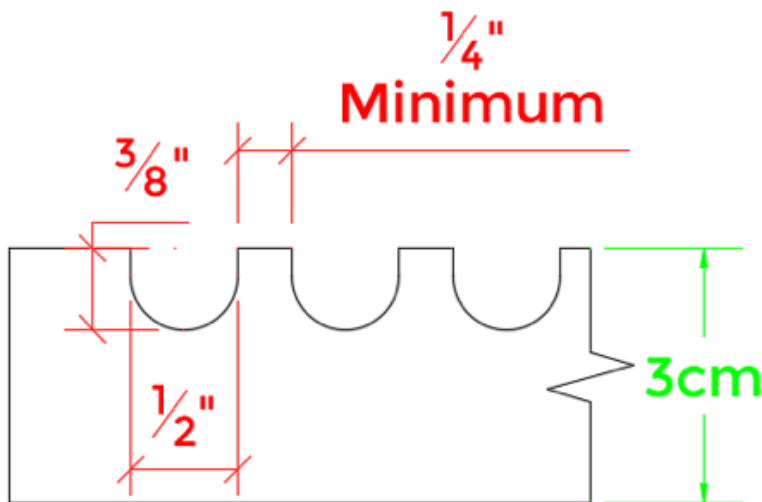

Figure 1
4. Cambria has been successful with a radial fluting of $\frac{1}{2}$ " wide x $\frac{3}{8}$ " deep with a minimum spacing of $\frac{1}{4}$ " between each flute. **See Figure 1.**